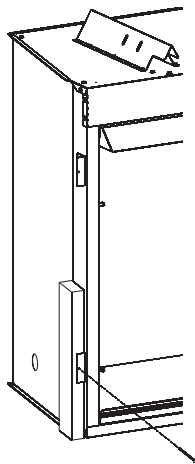

Figure 7
Place firebox in framing opening. Use the four (4) framing brackets provided on the firebox to attach firebox to framing. Different hole locations can be used for finishing materials with thicknesses of 3/8", 1/2" and 3/4". Attach these materials with screws provided, two (2) per framing bracket. **See Figure 7.**